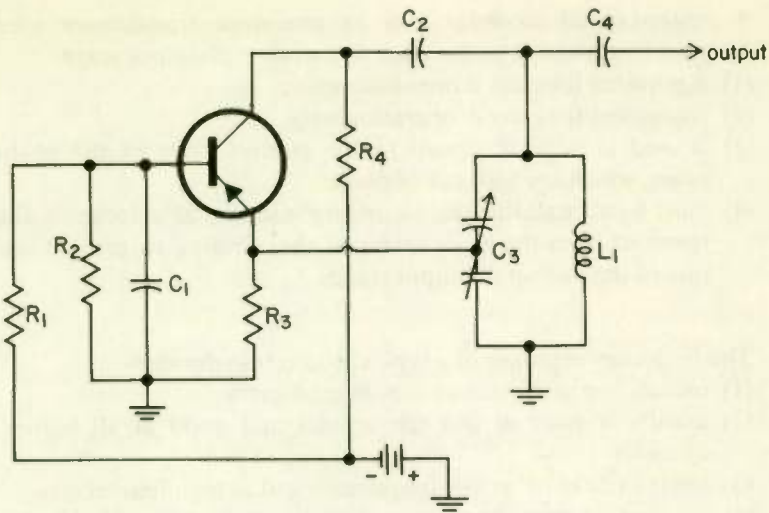

Fig. E.4
48. The circuit shown in Fig. E.4 is a transistor Colpitts oscillator. Which of the following statements about the circuit is *not* correct? (C_1 is an electrolytic capacitor.)
- (1) electron stream. (3) depletion region.
- (2) secondary emission. (4) space charge.
51. The function of C_1 in Fig. E.4 is to